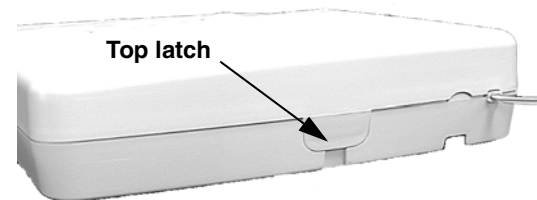

Figure 6. Releasing top latch
1. Release top latch to open the panel cover (see Figure 6).